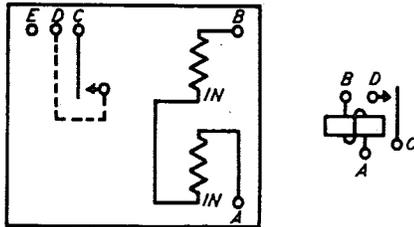

FIG. 8-WINDING AND SPRING TERMINAL ARRANGEMENT AS VIEWED FROM THE FRONT (CONTACT SIDE)-21 TYPE TELEG. RELAY
2.28 Facing the front or contact side of the relay the terminals are numbered as shown in Fig. 8.